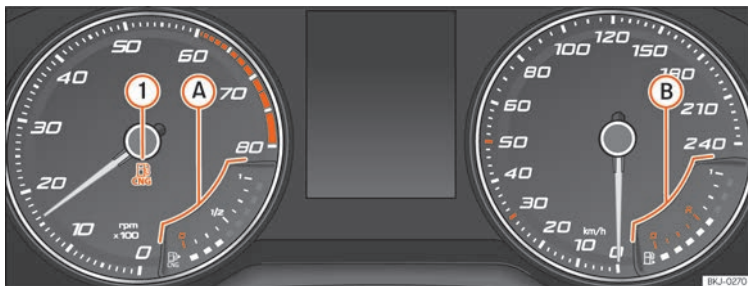

Fig. 67 Analogue instrument panel: natural gas gauge
It lights up green »» Fig. 67 ①